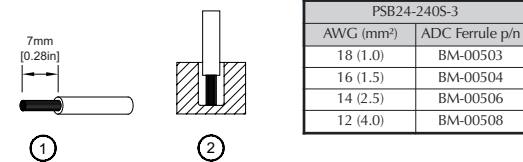

Figure 4
(1)	0.82 - 3.3	18-12	0.92	8.1
(2)	1.3 - 3.3	16-12	0.61	5.4
To secure reliable and shock proof connections, the stripping length should be 7 mm [0.28 in] (see Fig. 4 (1)). Please ensure that wires are fully inserted into the connecting terminals as shown in Fig. 4 (2).